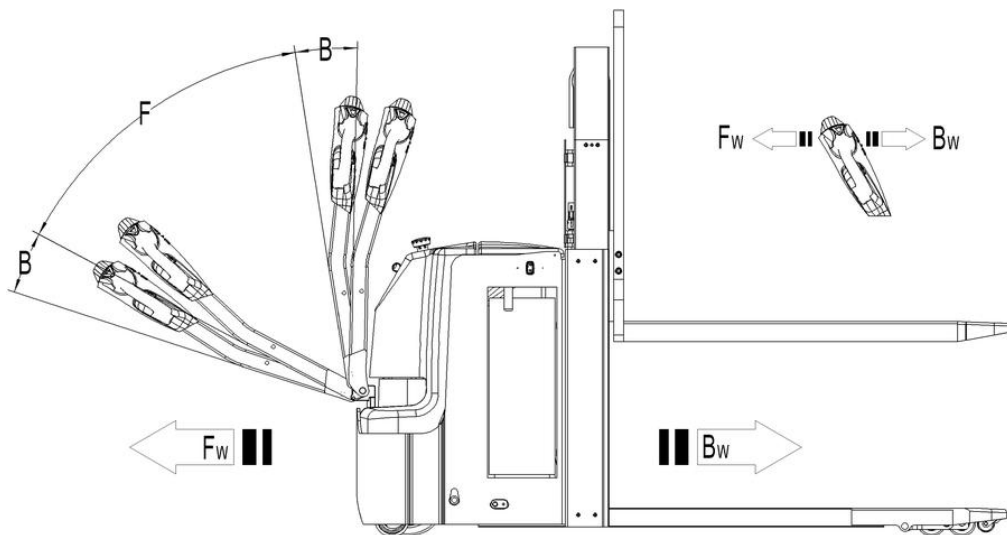

Fig. 10: Operating direction
After starting the truck by turning on the key switch (6), move the tiller to the operating zone ('F', fig.10). Turn the accelerator button to the desired direction forward 'Fw.' or backwards Bw.'(fig. 10).